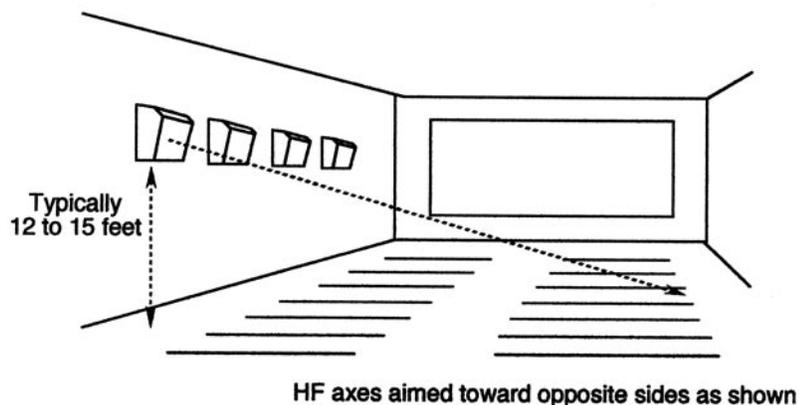

Figure 42: Surround channels, perspective view.
- Surround density should be about one unit for each nine to 12 feet along the walls. (See Figure 42)